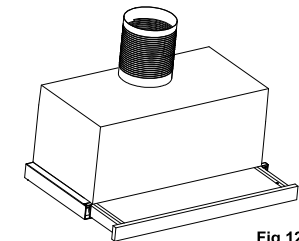

Fig.12
4. Fit the flexible flue(not supplied) to the duct transition Use fixing tape to secure flexible pipe to the duct transition.(Fig.12)